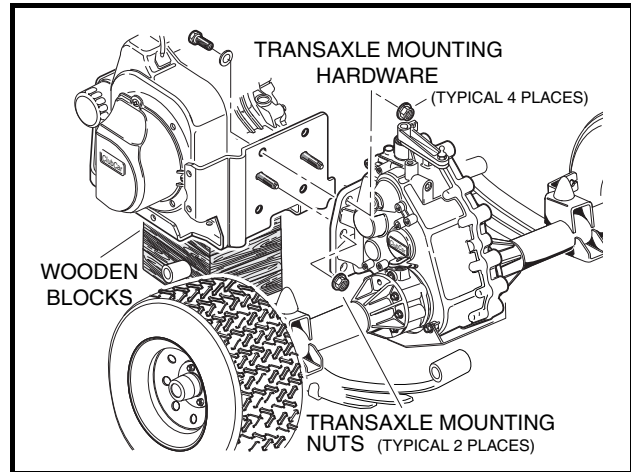

Figure 16-37 Transaxle Mounting
- 22.1. Remove four transaxle mounting bolts (one at each corner of the transaxle mounting plate) as shown (**Figure 16-37, Page 16-16**).
- 22.2. Remove two middle transaxle mounting nuts as shown (**Figure 16-37, Page 16-16**).
3. Position the transaxle mounting plate on the two mounting studs at the rear of the engine, and install the two mounting nuts (Figure 16-37, Page 16-16).
4. Install the remaining four mounting bolts and four nuts (one bolt and nut at each corner of the mounting plate) (Figure 16-37, Page 16-16).